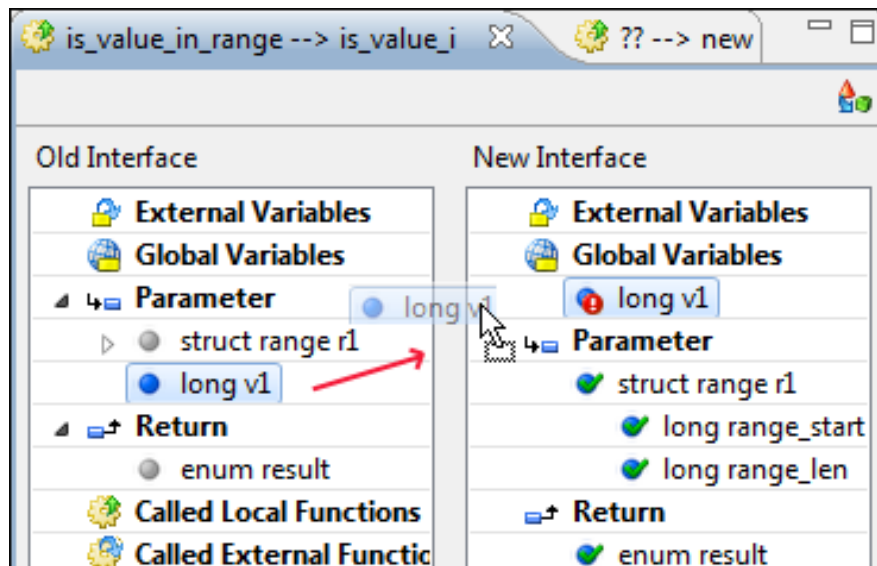

Figure 5.52: Use drag and drop in IDA
- Assign the interface object “long v1” either by using the context menu or just drag and drop from the left side (see figure 5.52).